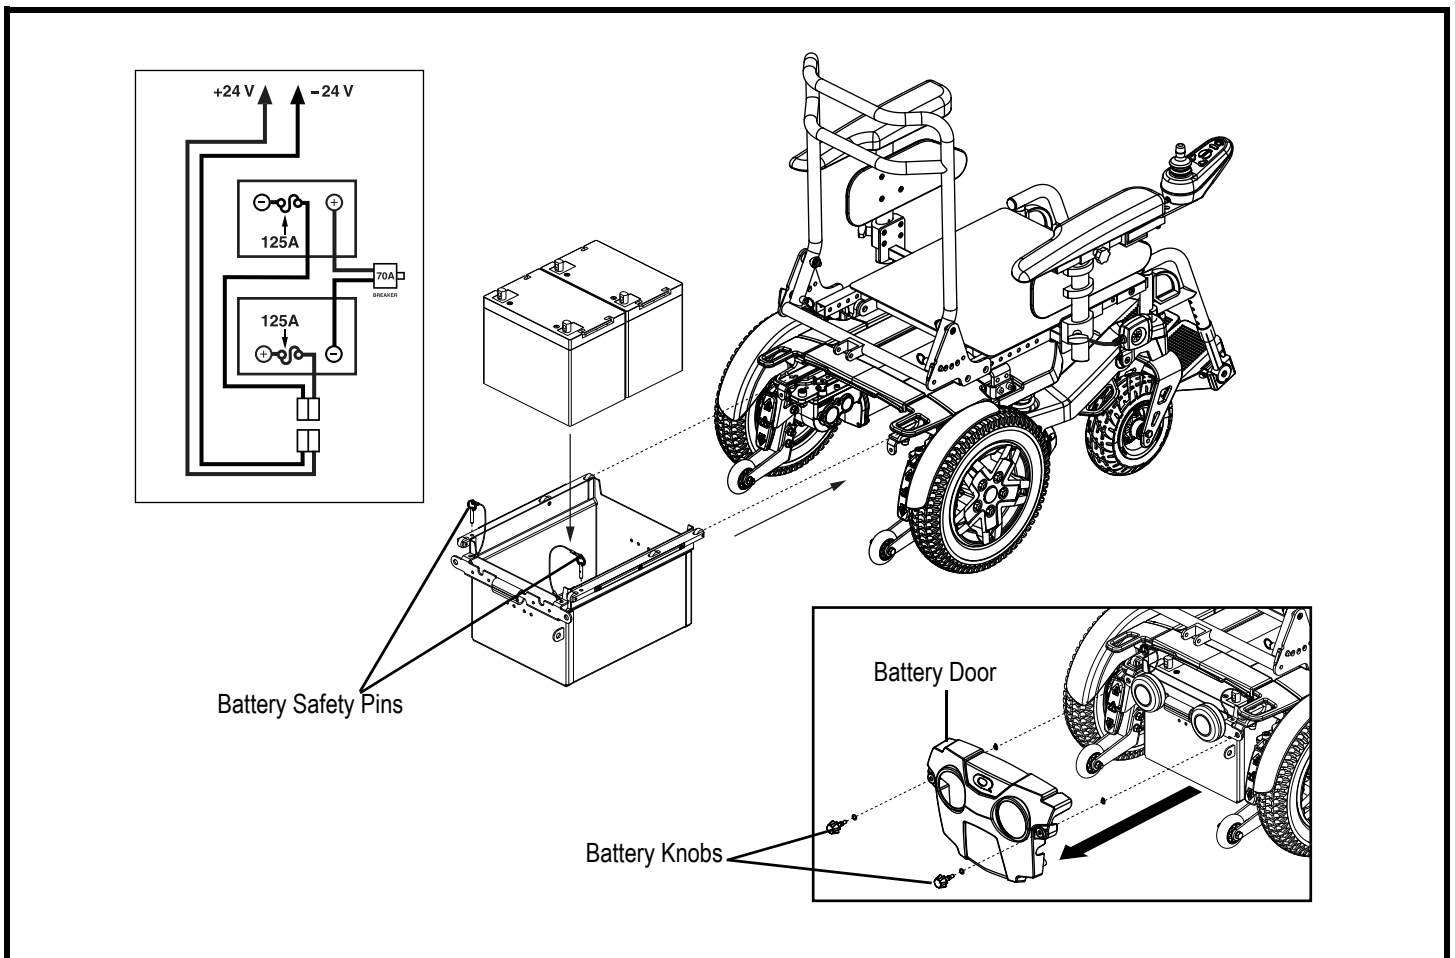

Figure 25. Battery Replacement
A battery wiring diagram is printed on a decal located on the battery door. See figure 25. Refer to the specifications table for correct battery specifications.
3. Loosen the battery knobs and remove the rear battery door. **See figure 25.**
4. Pull up and remove the battery tray safety pins. **See figure 25.**
5. Locate the battery quick disconnect on the frame and disconnect it. **See figure 25.**
10. Connect the battery quick disconnect according to the battery wiring diagram label located on the frame. **See figure 25.**